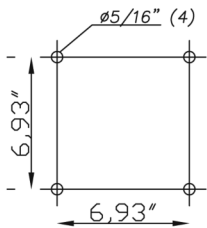

Fig. 2
- Mark the wall at the location of support E (Figure 2) according to the heights and specifications shown on the Mounting Template.
- Place tube A with the extendible part B hanging on the inside, making sure that flange D is correctly lodged in the support E (Fig. 2).